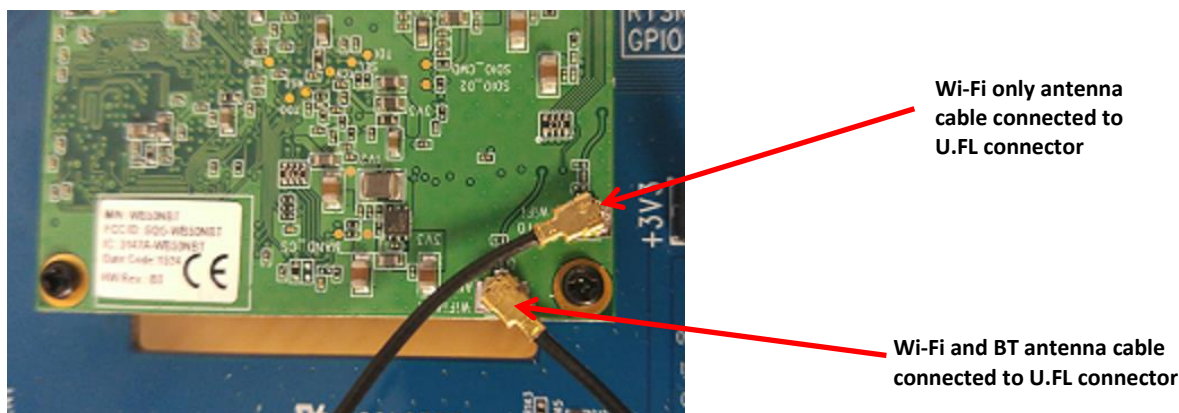

Figure 1: Location of the Wi-Fi and Bluetooth U.FL connectors on the SDB-WB50NBT
3. Connect the dual band antennas with an SMA connector to each of the **AUX. ANT** and **MAIN ANTENNA** SMA connectors on the top side of the BB40NBT board. Figure 1 shows the location of the Wi-Fi and Wi-Fi /Bluetooth antennas. This information is also available on the silk screen on the WB50NBT.